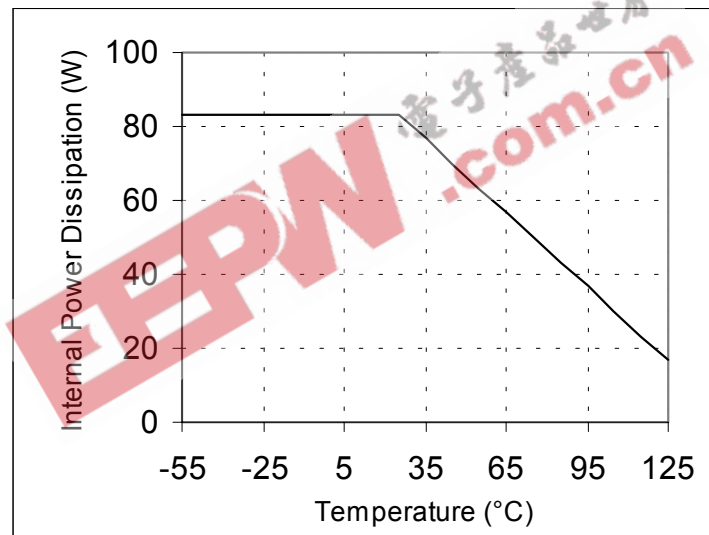

Figure 3. Maximum Average Power Dissipation vs. Case Temperature
- Case Temperature $T_C = 25^\circ\text{C}$ (see Figure 3).